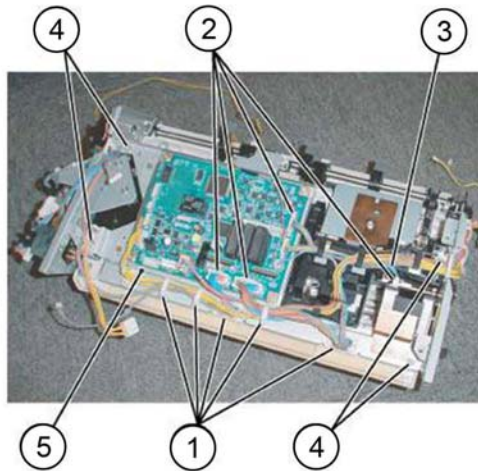

Figure 2 Bottom plate removal
7. Remove the bottom plate, **Figure 2**:
- a. Release the harness from the 5 clamps (1).
- b. Disconnect eight connectors (2).
- c. Remove the harness from the retainers (3).
- d. Remove four screws (4).
- e. Remove the bottom plate (5).